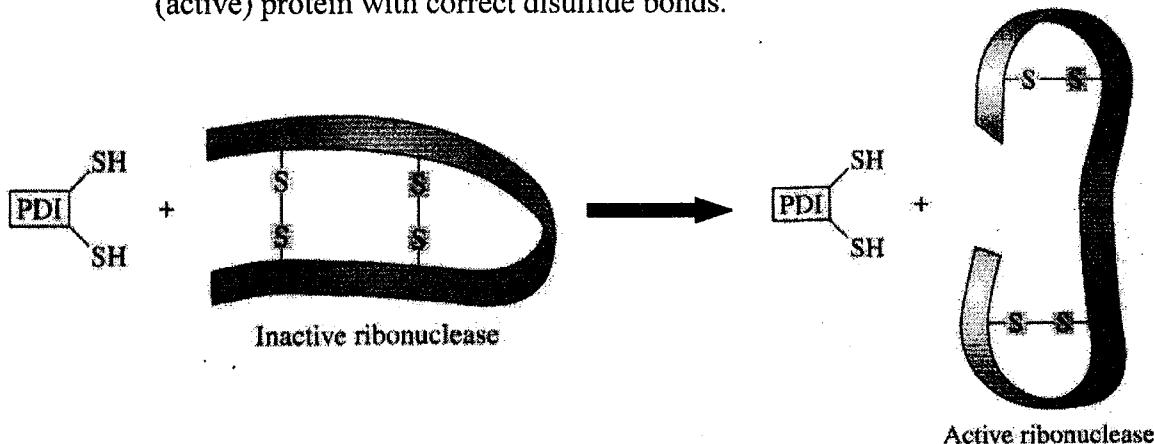

Figure Q.6 [b]
- [b] Protein disulfide isomerase (PDI) markedly increases the rate of correct refolding of the inactive ribonuclease form with random disulfide bonds (See Figure Q. 6. [b]). Show the mechanism for the PDI-catalysed rearrangement of a nonnative (inactive) protein with incorrect disulfide bonds to the native (active) protein with correct disulfide bonds.